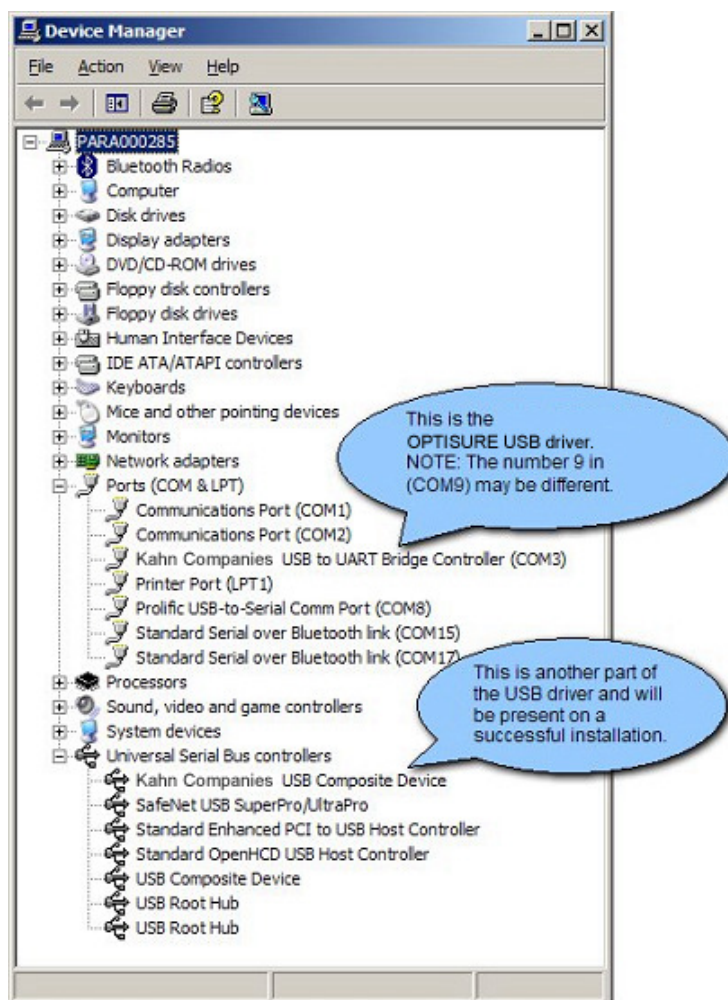

Figure 4.2 Windows Device Manager Screen
2. Windows will recognize the instrument and automatically install the relevant drivers. If the driver installation has been successful then the Windows Device Manager will list the following drivers (see *Figure 4.2*)
Manual – Choose the appropriate COM port from the drop down list, as shown in the Windows Device Manager (see *Figure 4.2*).